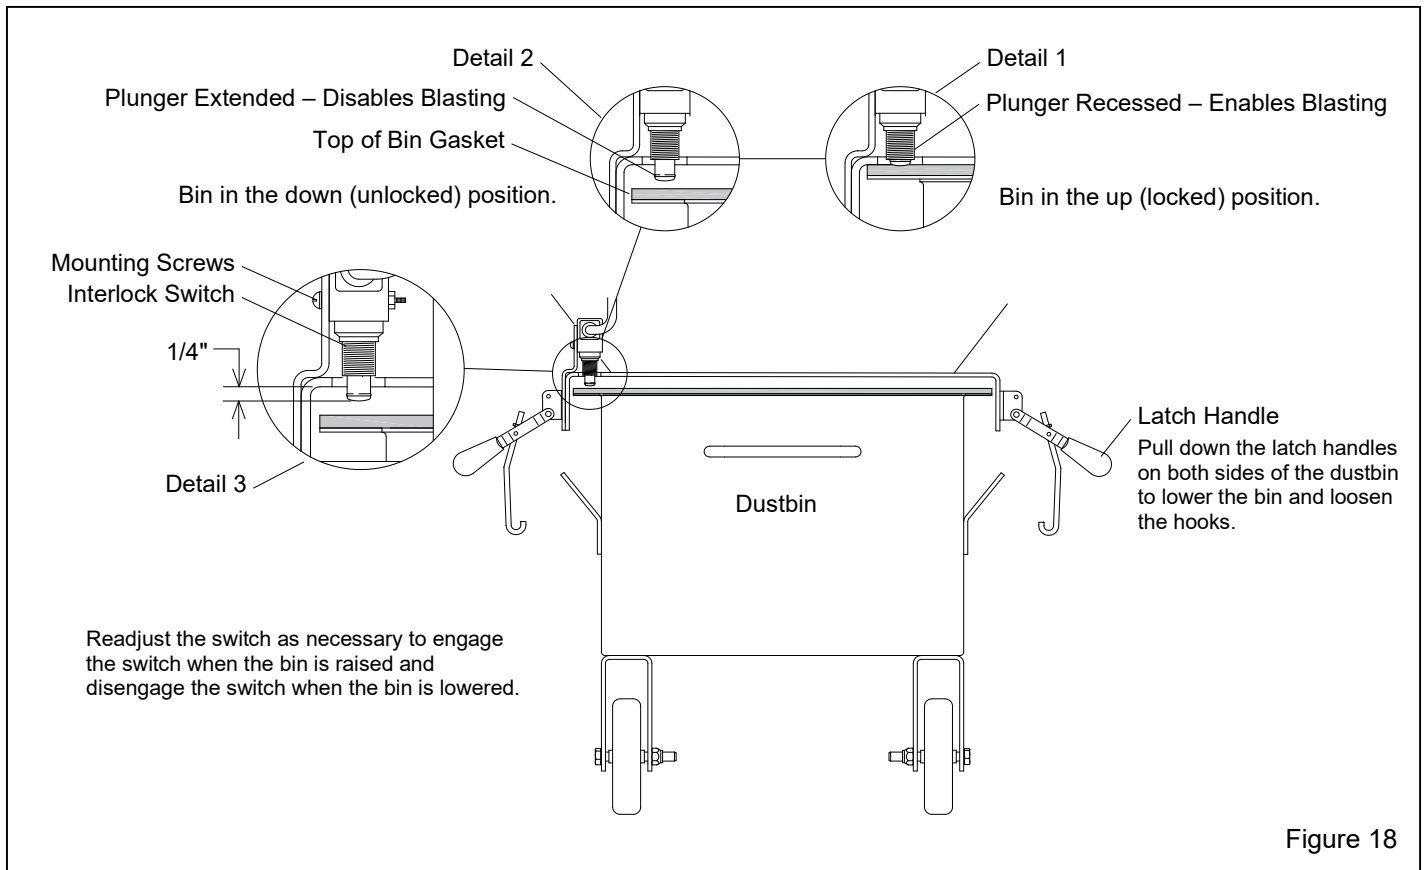

Figure 18
5.7 Dustbin Interlock – Figure 18
5.7.2 To enable blasting, the interlock switch must be engaged when the bin is closed (raised against the dust-collector hopper), as shown in the Detail 1 Circle in Figure 18. The interlock is set at the factory and does not normally require field adjustment unless parts are replaced. When adjustment is required, proceed as follows:
5.7.3 To disable blasting and permit removal of the dustbin, the top of the bin must clear the switch, as shown in the Detail 2 Circle in Figure 18.
5.7.4.2 Loosen the switch's mounting nuts. Move the switch up or down as necessary to obtain approximately 1/4" between the bottom of the hopper flange and bottom of the switch's plunger, as shown in the Detail 3 Circle in Figure 18.